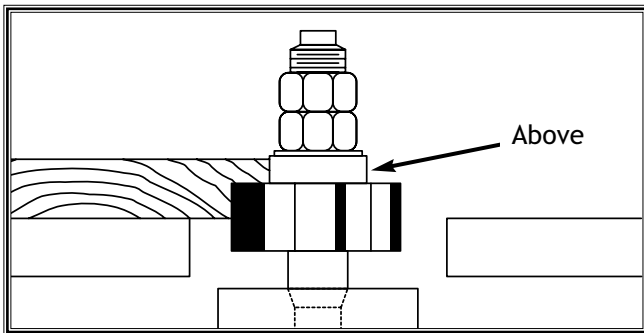

Figure 47. Rub collar mounted above cutter.
1. **ABOVE THE CUTTER** as shown in **Figure 47**. This setup is the safest and produces the most consistent results. The only drawback is that the cut is on the underside of the workpiece, out of view of the operator. However, if the workpiece lifts off the table, you simply run it through a second time to finish the cut.